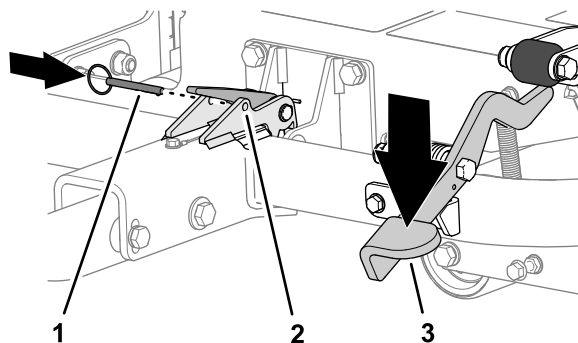

Figure 19
3. Step on the hitch pedal until the hitch locks into place (Figure 19).
4. Insert the locking pin through the holes in the latch (Figure 19).